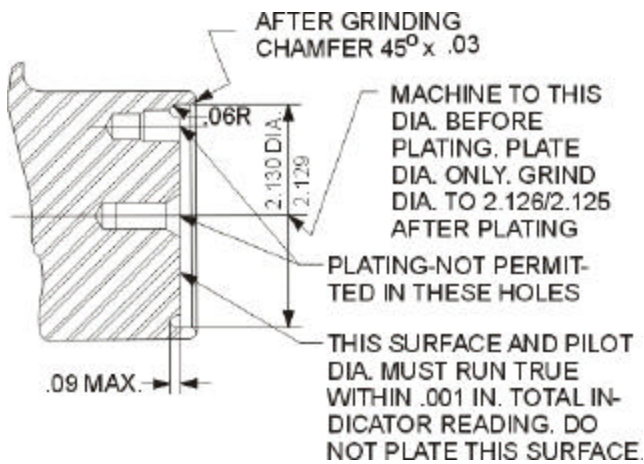

Figure 1. Details for Repairing Pilot Diameter of Crankshaft
- a. After removing the dowel, machine the pilot diameter in the end of the crankshaft to 2.129/2.130 inch as shown in the illustration. See Figure 1. Also, cut the .09 deep x .06R undercut as shown.
- e. Chamfer edge of pilot diameter 45° x .03 as shown in Figure 1.